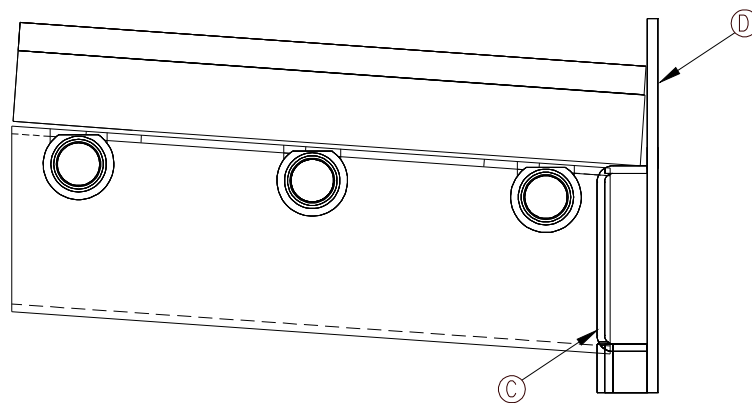

Figure 3.4b
2. Put them on the horizontal air duct (C) (see figure 3.4b). Afterwards, push them towards the bottom and sides so that they rest on the back of the fireplace (D) and on the side air ducts.